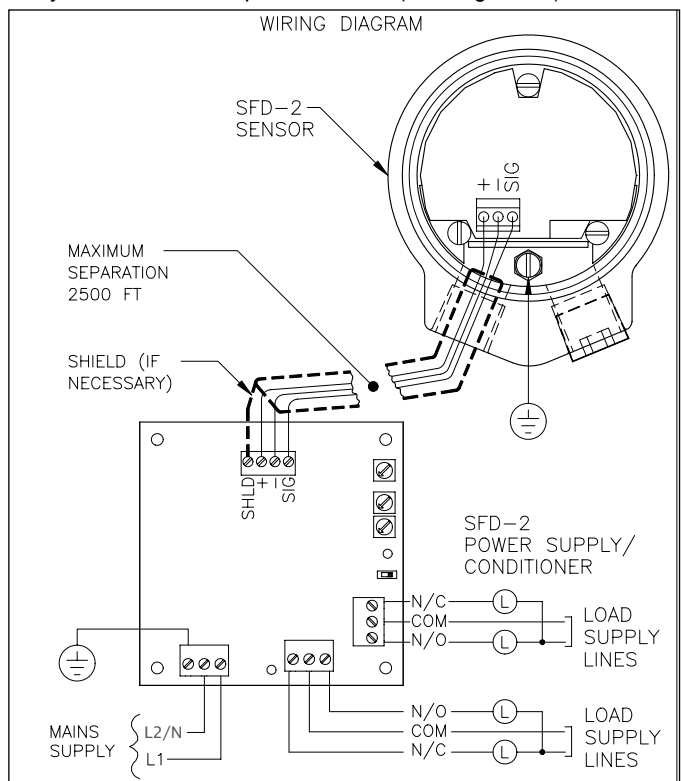

Figure 10
1) Sensor to Power Supply/Conditioner - (See Figure 10) Insure the sensor and power supply/conditioner are positioned closer than 2500 feet from each other. Interconnect the sensor to the power supply/conditioner via a 3-conductor cable. A shielded cable should be used when the cable is in close proximity to high voltage or heavy current switching wires. Recommended cable types are as follows: